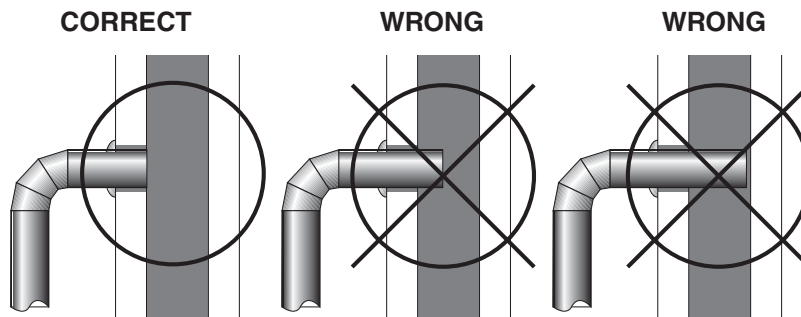

Fig.5 - Stovepipe/Flue Connections
- The pipe cannot extend into the chimney flue (figure 5).
- It is recommended that no more than two (2) 90 degree bends be used in the stovepipe installation. The use of more than two 90 degree bends may decrease the amount of draw and possibly cause smoke spillage. Where possible, use only corrugated (nonadjustable) elbows. These provide a better seal.